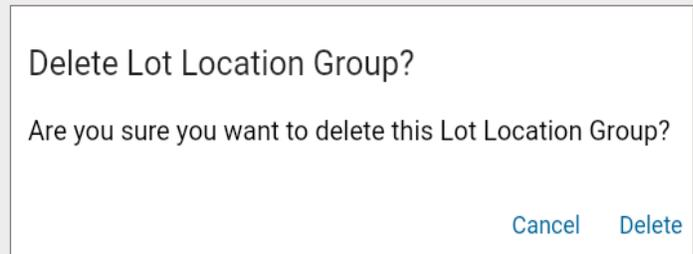

Fig. 249 – Delete lot location group pop-up
4. From the pop-up that appears that asks you to confirm you wish to delete the lot location group, select **Delete**, as shown in Fig. 249.